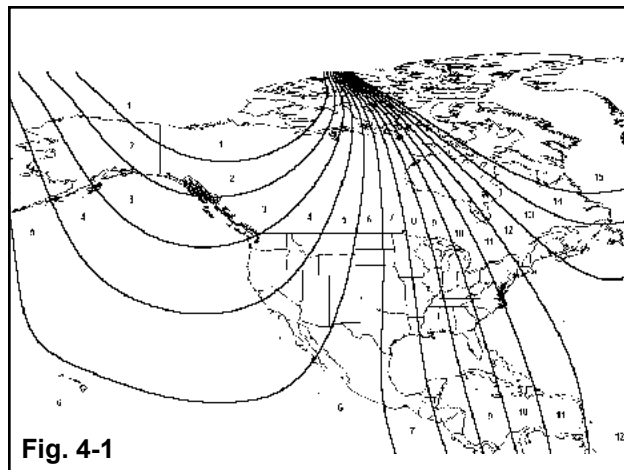

Fig. 4-1
- The zone setting is factory preset to zone 8. Refer to the Compass Calibration Zone Map (**Fig. 4-1**) to find the correct compass zone setting for your geographical location.